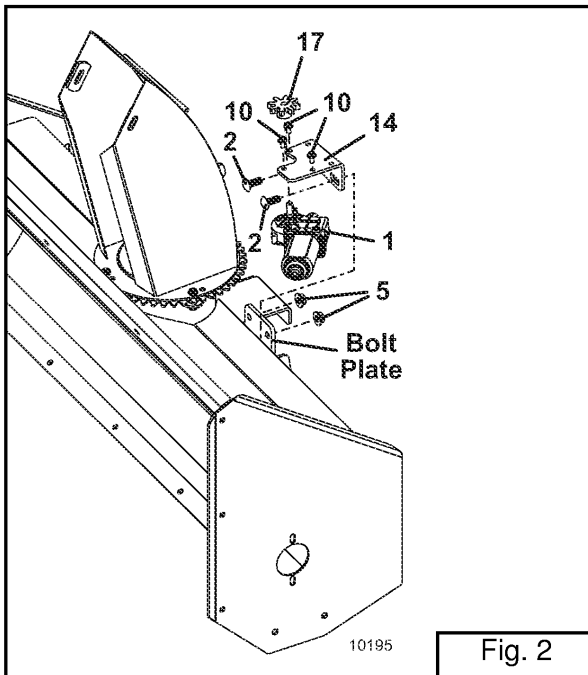
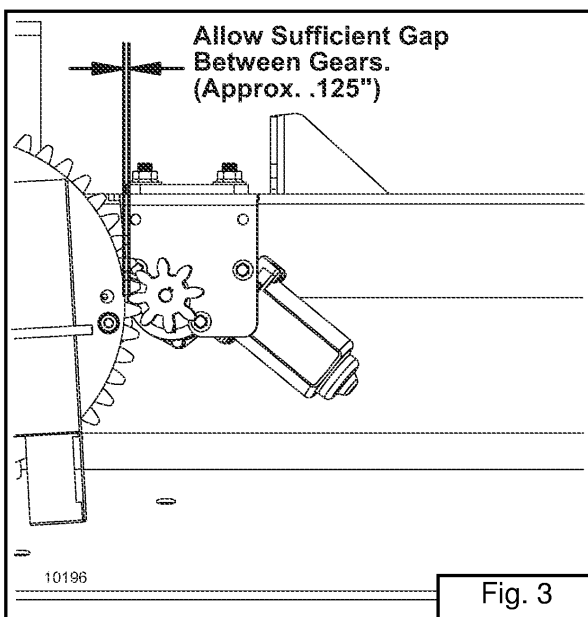

Fig. 2
Fig. 3
- Bolt motor mount with motor to the bolt plate (see Fig. 2) with two .375 x 1 carriage bolts (item 2) and .375-16 whiz nuts (item 5). Adjust motor position to allow approximately .125 inch gap between motor gear and spout gear. (See Fig. 3) Tighten .375-16 whiz nuts.